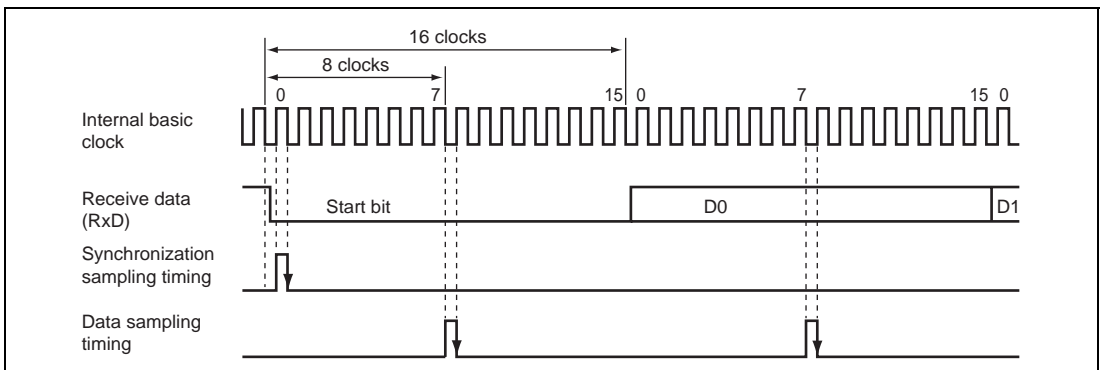

Figure 18.6 Receive Data Sampling Timing in Asynchronous Mode
In asynchronous mode, the SCI operates on a base clock with a frequency of 16 times* the bit rate. In reception, the SCI samples the falling edge of the start bit using the base clock, and performs internal synchronization. Since receive data is sampled at the rising edge of the 8th pulse* of the base clock, data is latched at the middle of each bit, as shown in figure 18.6. Thus the reception margin in asynchronous mode is determined by formula (1) below.